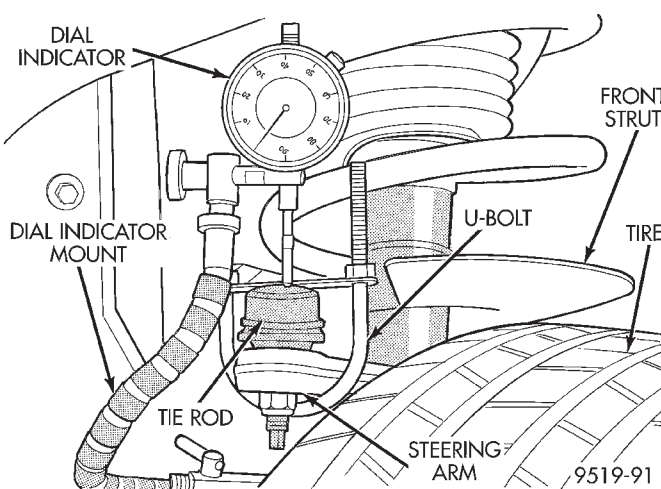

Fig. 1 Checking Tie Rod Socket End Play
(1) Position the vehicle on a drive on hoist or an alignment rack so that the tires are supporting the total weight of the vehicle.
(2) Raise hoist or alignment rack so that the tie rod is positioned at eye level.
(3) Mount a dial indicator to the front strut assembly (Fig. 1).
(4) Install a U-bolt having an inside dimension of 2 inches and a length of 3 inches (minimum) on the tie rod end and steering arm of strut as shown in (Fig. 1). Hand tighten nuts on U-bolt enough to just hold U-bolt in place.
(5) Position dial indicator in center of tie rod as shown in (Fig. 1). Zero the dial indicator gauge.
(6) Equally tighten both nuts on the U-bolt until a torque of 2.7 N·m (24 in. lbs.) is achieved on each nut. Listed is the allowable tie rod socket end play. New ball joint end play should not be greater than 0.100 inches. Ball joint in service end play should not be greater than 0.190.